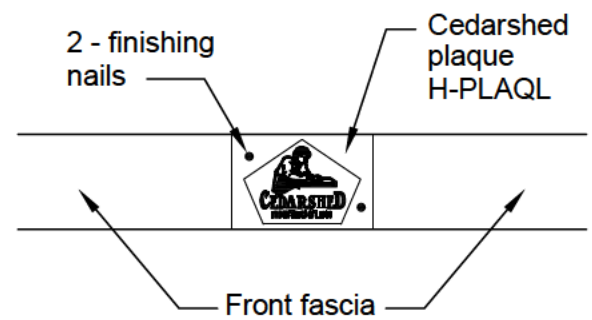

FIGURE S24
- Attach plaque with finishing nails. Rectangle shape plaques is attached to front fascia. See Figure S24.